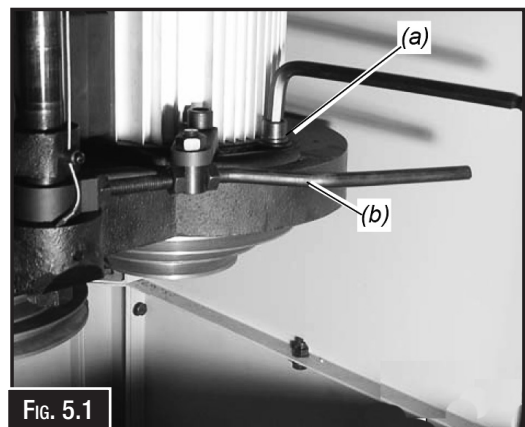

FIG. 5.1
3. Loosen the Allen Bolt M12x40(a) with Allen wrench, Pull the Motor Tension Lever(b) out. (Fig. 5.1)